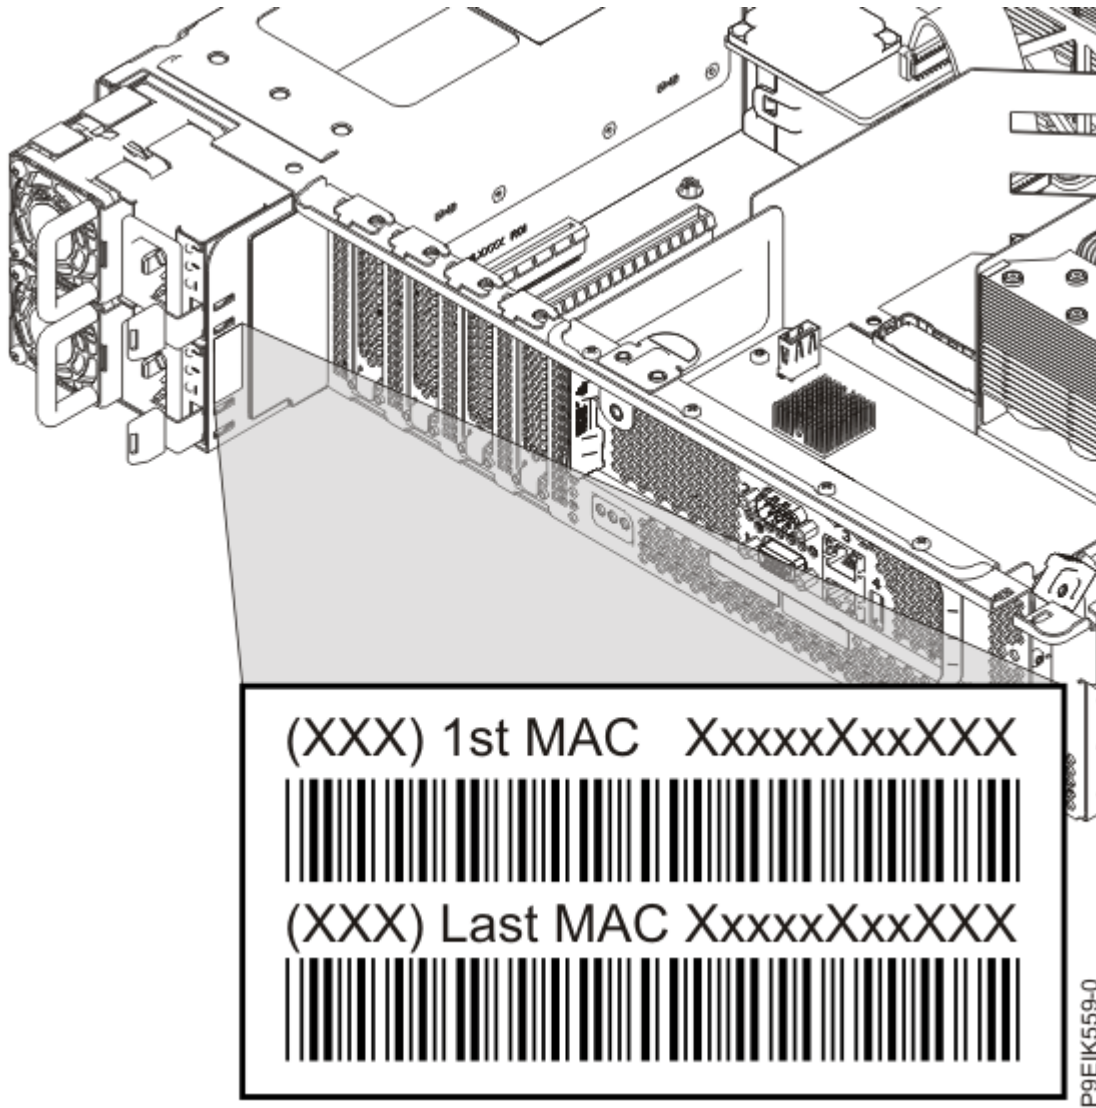

Figure 4. Applying the new MAC address label
8. Apply the new MAC address label over the previous label, on the power supply housing of the chassis, as shown in Figure 4 on page 7.